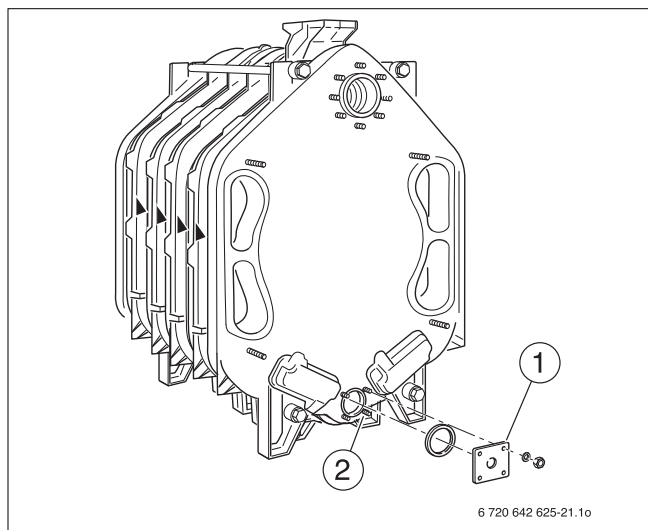

Fig. 24 Fitting the flange
- ▶ Drain the water from the fill and drain valve (→ Fig. 24, [1], page 20), at the water supply connection, or at a leaky hub connection.